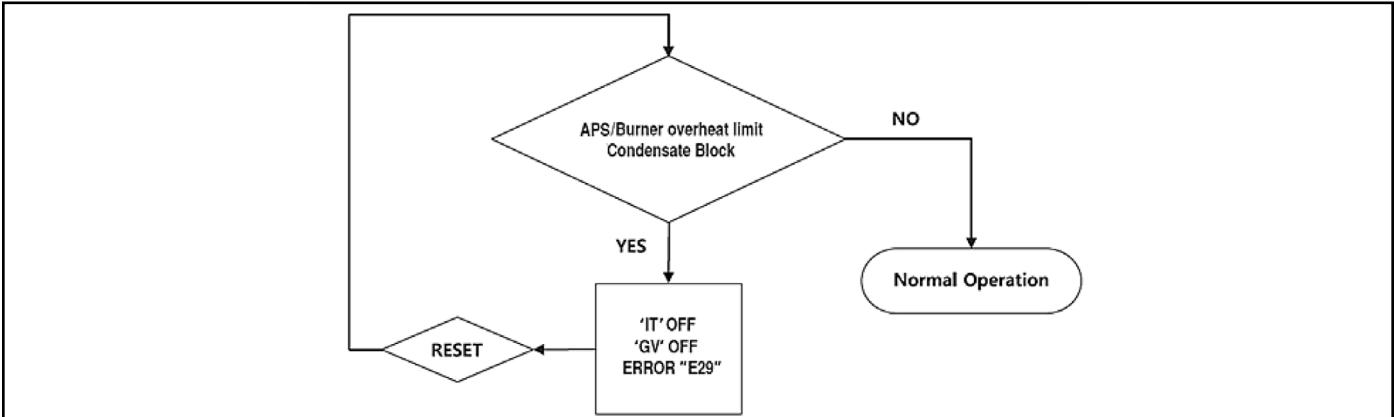

Figure 61 - APS / Burner Overheat Limit / Condensate Block Switch Error Analysis Tree
When the Step Modulation on/off parameter is active, step modulation limits the boiler firing rate when a heating cycle starts. There are six (6) limiting steps used to limit temperature overshoot and short cycles. See Figure 61. This feature can be turned on or off depending on the installation. This parameter can be changed by the installer by accessing parameter 37:CM or 38:dM. The control range of this parameter is OFF or ON. The default value is OFF. The percentage of each step can be decreased as low as 50% by decreasing the overall capacity of the boiler in the Installer Menu changing parameters 18:cb or 19:db.